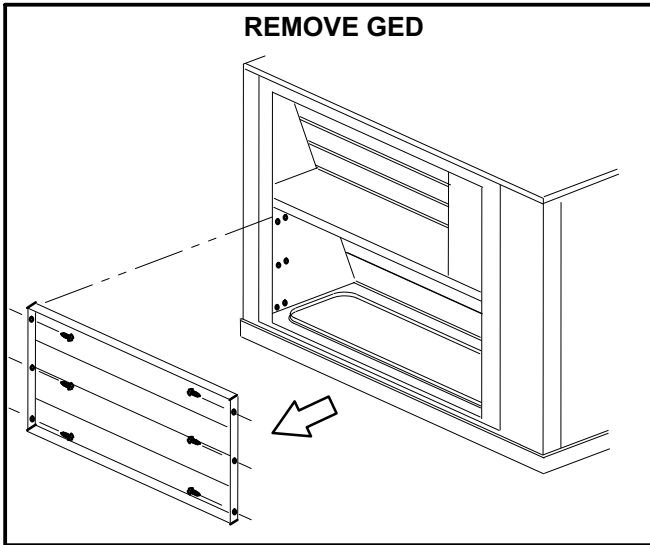

FIGURE 7
- 1- Remove the GED from the economizer. See figure 7.